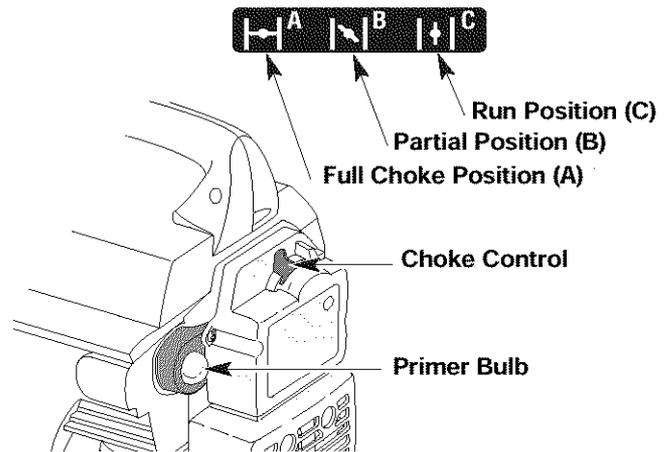

Fig. 10
3. Fully press and release primer bulb slowly 5 to 7 times. Fuel should be felt and visible in the bulb (Fig. 10). If fuel hasn't entered the bulb, press three more times, or until it does.
4. Place the Choke Control in the **FULL** choke (A) position (Fig. 10).
7. Place the Choke Control in the **PARTIAL** (B) position (Fig. 10).
10. Allow the engine to warm up for 5 to 10 seconds. Place the choke control in the **RUN** (C) position (Fig. 10).
NOTE: Choking is unnecessary when starting a warm engine. Put the throttle control in the fast position () (Fig 10), and start unit with the choke control in the **PARTIAL (B |v)** position (Fig. 10).